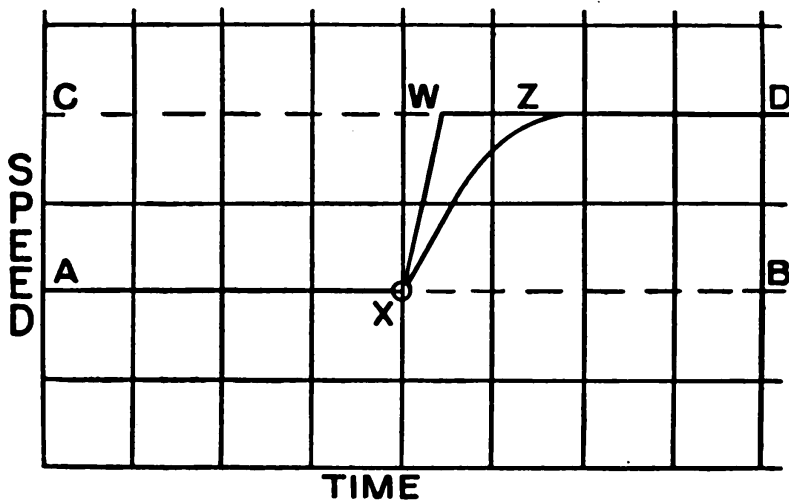

Figure 43.—Time, speed graph.
*AB* in figure 43. If the gunner wishes to reach full normal speed rapidly, he quickly deflects the potentiometer pointer, and because of the quick response characteristic of the amplidyne, he immediately is rotating at full normal speed along line *CD*.
Curve *XW* in figure 43 indicates that there will be practically no time interval for the change of speed. This sounds good, but it isn't. Because acceleration will be *JERKY*. This will definitely cause hunting under certain conditions.
In figure 43, the anti-hunt field (AHF), a condenser, and a resistor have been hooked in series across the output of the amplidyne. The AHF is wound on the bottom pole piece of the amplidyne, together with half of the series field. Its action is to oppose any change of the control-field flux.